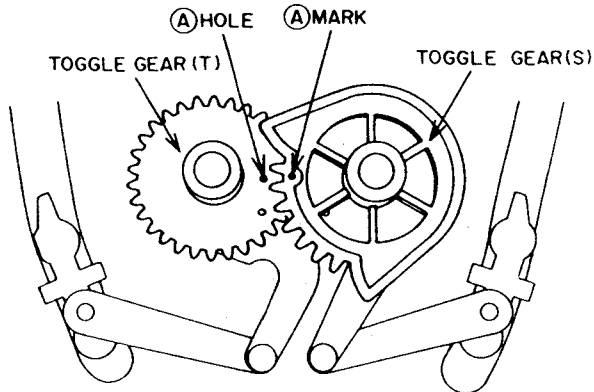

Fig. 3-10
- 1) Set the TOGGLE GEAR (T) and TOGGLE GEAR (S) to the unloaded position with your fingers. Align the Ⓐ mark on the TOGGLE GEAR (S) with the Ⓐ hole of the TOGGLE GEAR (T) as shown in Fig. 3-10.